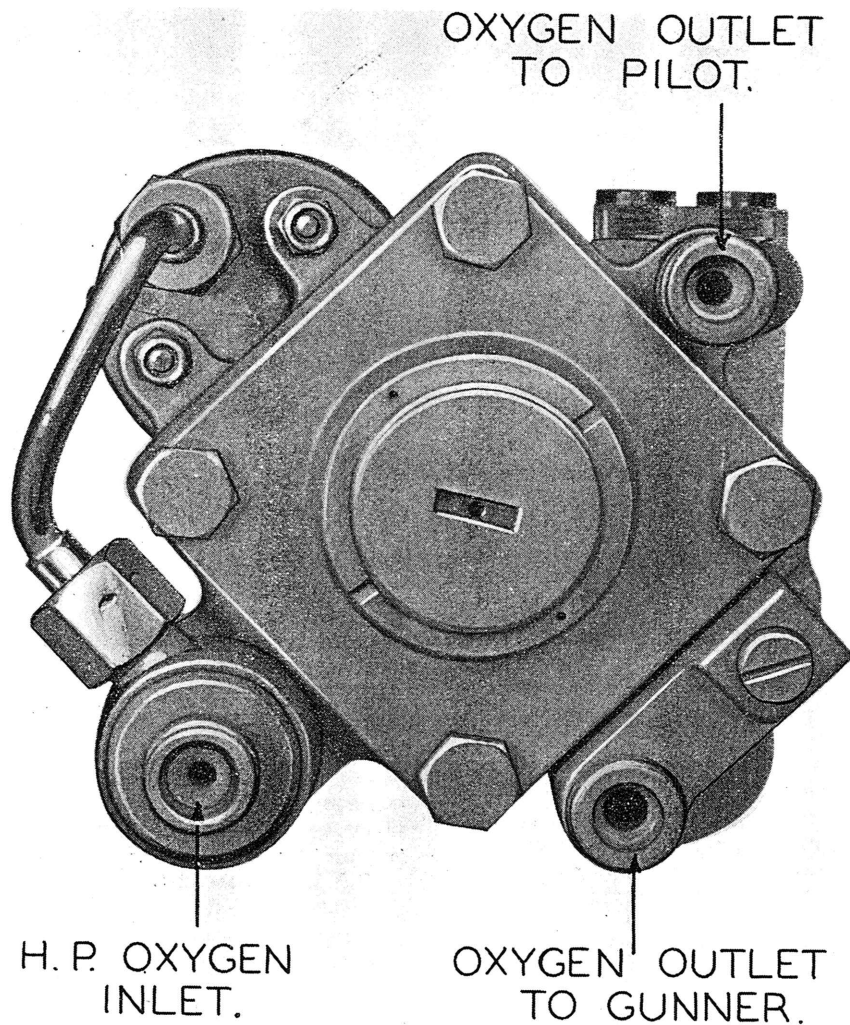

Fig. 2. Mk. 11B regulator, rear view
5. A sectional view of this unit is shown in fig. 5; the valve is of the glandless type, the usual gland and gland washer being replaced by a metallic bellows. The oxygen enters at high pressure through the inlet connection (fig. 2) and passes through connecting passages and a filter to the reducing valve. A passage also leads from the valve body to a pipe connecting to the contents gauge.